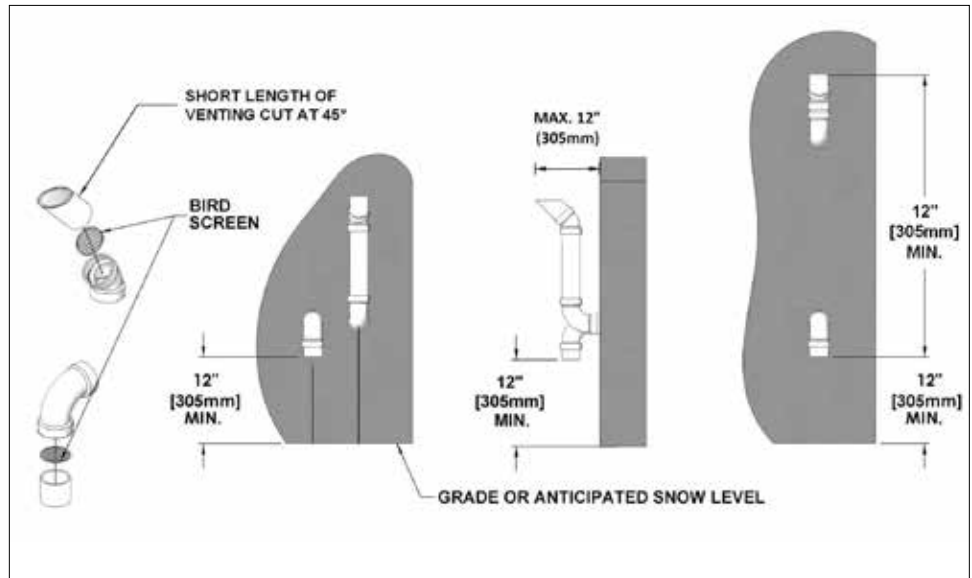

Figure 13: Sidewall vent termination - piping configuration
- The elevation of both terminations can be raised in "periscope style" after passing through the wall, then configured as in Figure 13, to gain the required clearance.